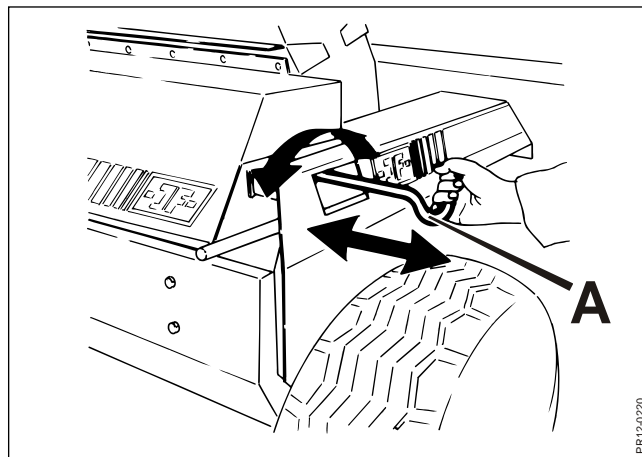

Fig. 4-29
- Fig. 4-29** 7. Feed carefully by turning the handle **A** until the stone just touches the blades. Move the stone in a slow, sliding movement across the whole rotor and back again. Feed a little more and repeat the movement across the full width of the rotor so that the blades across the entire width of the rotor are ground.